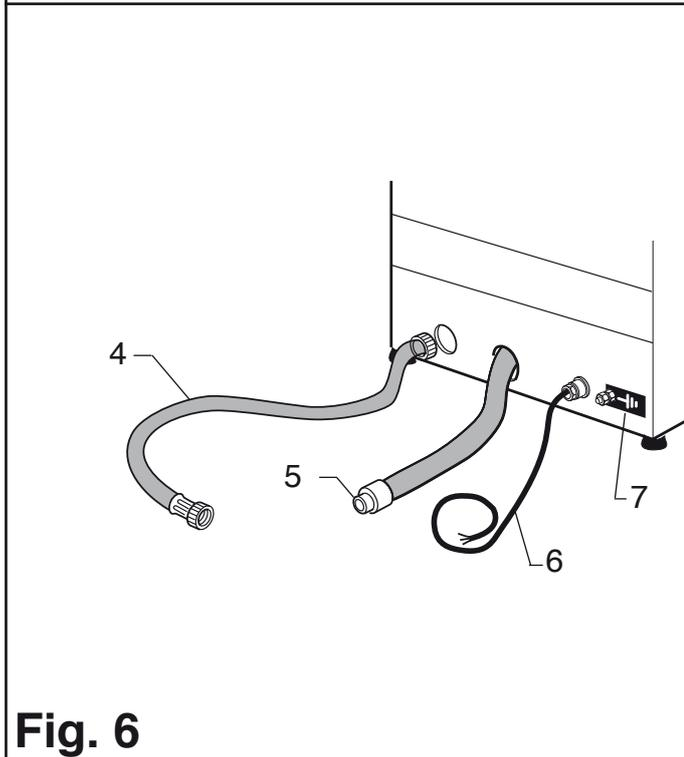

Fig. 6
**3.1 INSTALLATION (Fig. 6)**
- Position the machine at its final installation site and level it by acting on the adjusting feet (20).
**3.1.a Drain hose connection (Fig. 6)**
- Connect the drain hose (11) to the overflow trap and the other end to the drain pump.
**3.1.b Water connection (Fig. 6)**
- Connect the supplied filler hose (4) to the solenoid valve and the other end of the filler hose (4) to a 3/4" G threaded valve and apply the filter (8).